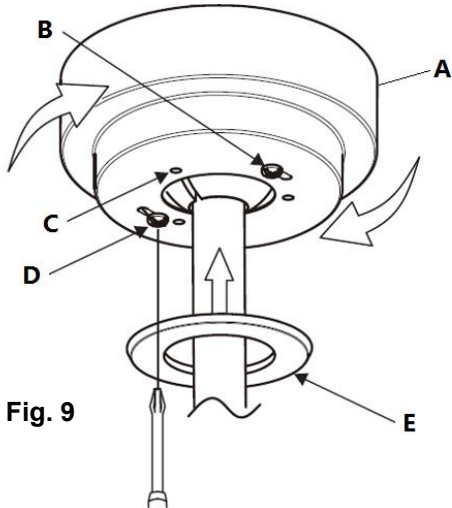

Fig. 9
INSTALLING THE CANOPY (Fig. 9)
2. Slide the canopy (A) up to the mounting bracket and place the keyhole slots over the mounting screw (D) on the mounting bracket.
3. Rotate the canopy (A) until the screw head (B) locks in place at the narrow section of the key hole. See **Fig. 9**.
4. Secure the canopy by tightening the two mounting screws (D). Now, attach the canopy cover (E) to canopy and secure it by pushing the lugs into the holes (C).